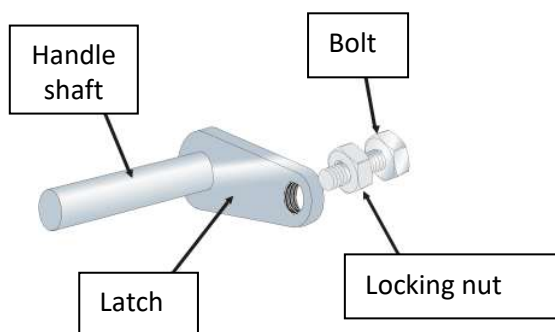

Fig. 26
Check the fit and seal of the doors and ashpan door frequently. For proper operation an airtight seal must be maintained around these openings. If the seal is not tight, inspect the gasket. If the gasket needs replacement, contact your dealer. If the gasket is in good condition, check the closure latch screws; if these are loose, adjust the door handle (Fig. 26).
**Door handle adjustment (see Fig. 26)**